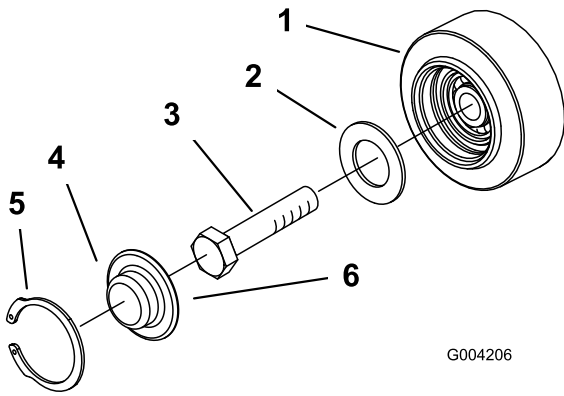

Figure 65
- Remove the snap ring and cap from a road wheel (Figure 65).
4. Check the grease under the cap and around the gasket (Figure 65). If it is dirty, gritty, or depleted, clean out all of the grease, replace the gasket, and add new grease.
6. Place the greased road wheel cap over the bolt head (Figure 65).
7. Secure the road wheel cap with the snap ring (Figure 65).